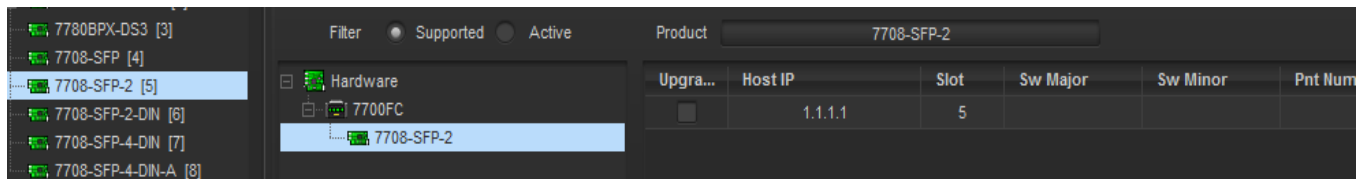

Figure 5-1: Version Information
- Using VistaLink (see Figure 5-1 – Version Information)